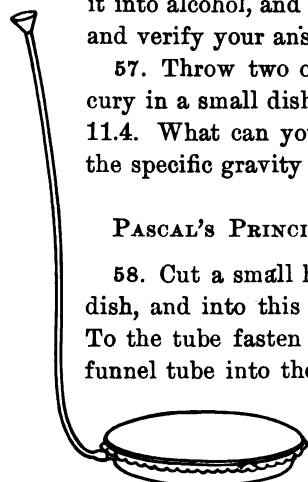

FIG. 8
58. Cut a small hole in the side of a shallow tin dish, and into this solder a short tin tube (Fig. 8). To the tube fasten a long rubber tube, and insert a funnel tube into the other end of this. Tie a cover of sheet rubber very securely over the dish, as in the figure. Fill the whole with water up to the funnel. Place some large books upon the rubber cover